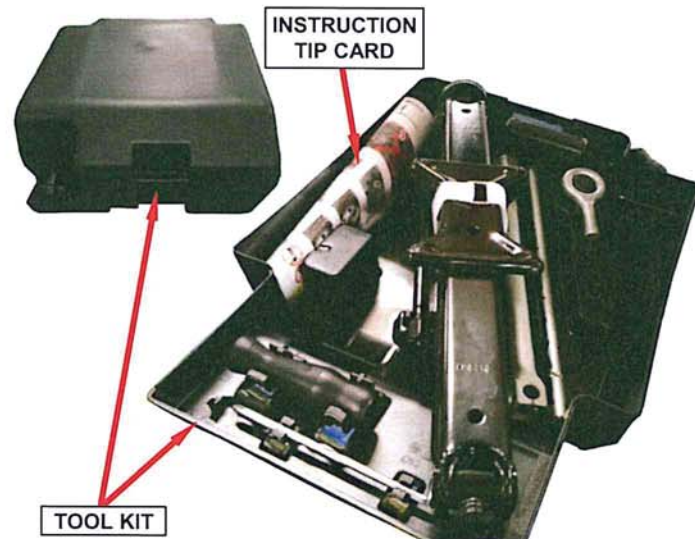

Figure 2 – Hard Case Tool Kit
4. Open the tool kit and insert the instruction tip card into the tool kit (Figures 2 and 3).